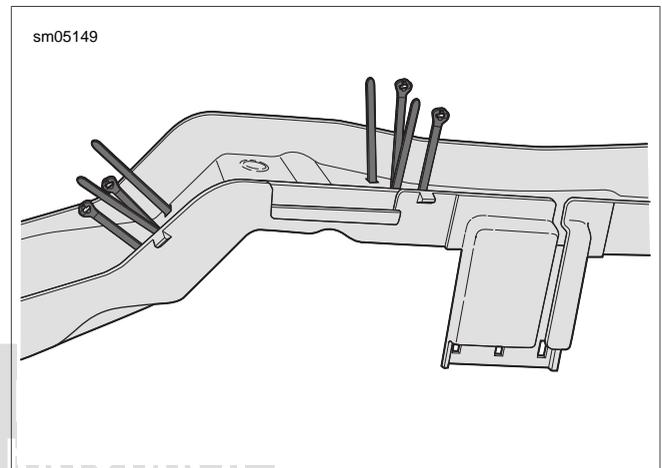

Figure 8-101. Install New Cable Straps in Wire Trough
1. Thread eight cable straps through slots inside **new** wire trough as shown in Figure 8-101.